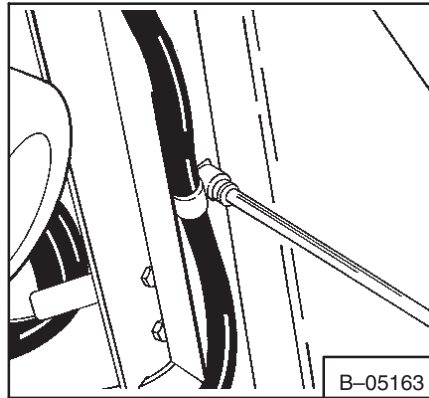

Fig. 1-32 Hose Clamp
- (a) Open the rear door and remove the hose clamp (Fig. 1-32) from the rear door.